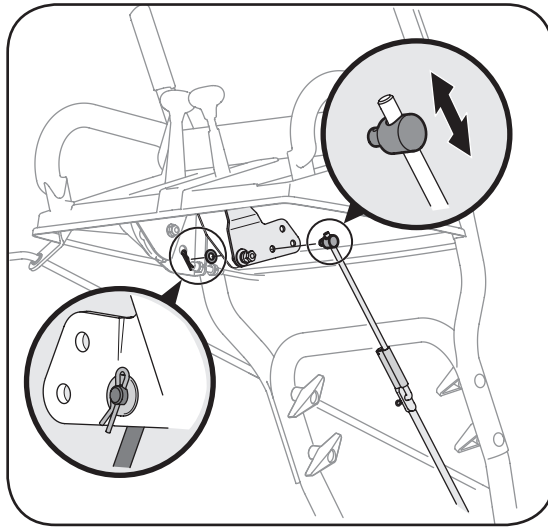

Figure 15
If the full range of speeds (forward and reverse) cannot be achieved, refer to Figure 15 and adjust the shift rod as follows:
1. Looking underneath the handle panel, note which of the three holes in the shift lever the ferrule is inserted into. Also note the direction of insertion. Then remove the internal cotter pin and flat washer from the ferrule and withdraw the ferrule from the shift lever. See Figure 15.
2. Place shift lever in sixth (6) position or fastest forward speed.
4. As necessary, rotate the ferrule up or down the shift rod until the ferrule lines up with the hole from which it was earlier removed. See Figure 15.